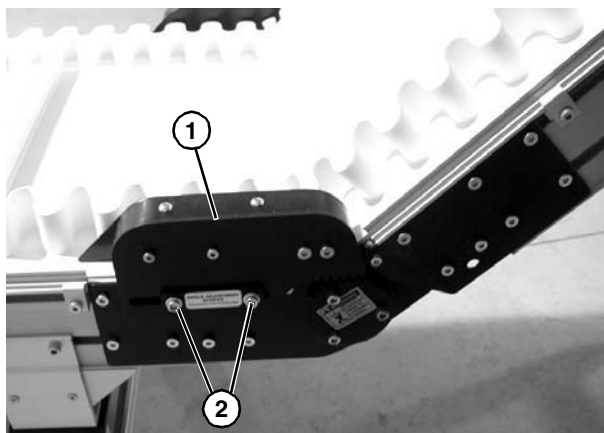

Figure 31
5. If equipped, install lower knuckle return roller assembly (**Figure 31, item 1**) with screws (**Figure 31, item 2**) on both sides of knuckle, note the position of the meshing teeth.